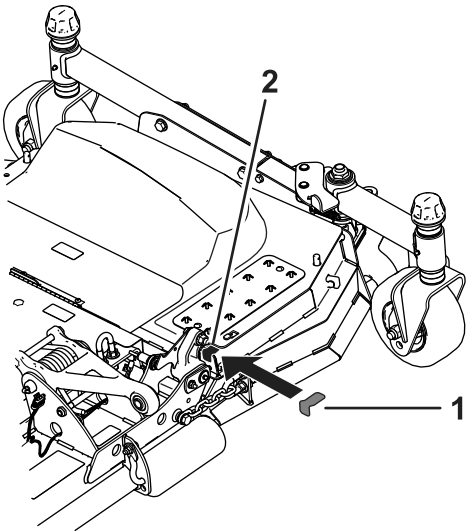

Figure 3
- Install the shims on the front and back of the mower deck as shown in Figure 3.